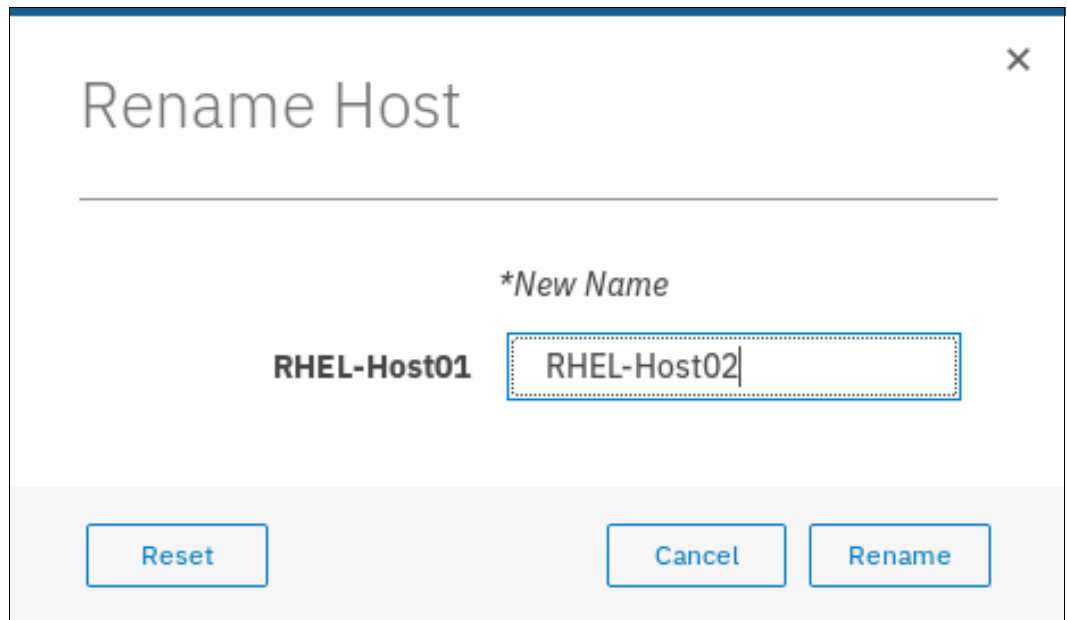

Figure 8-17 Renaming a host
4. Enter the new host name and click **Rename**, as shown in Figure 8-17.